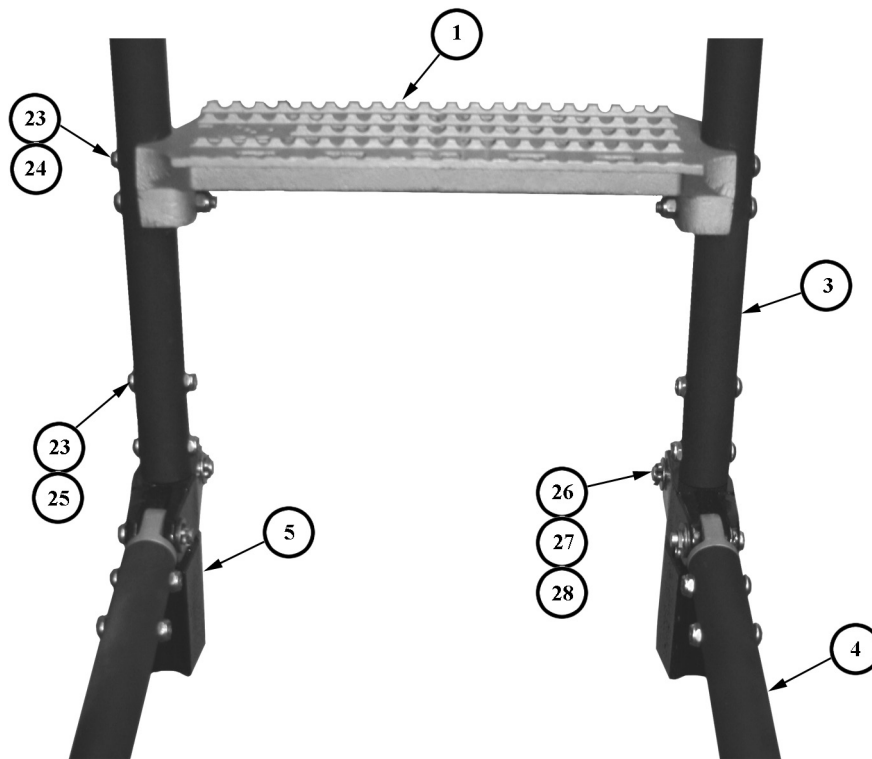
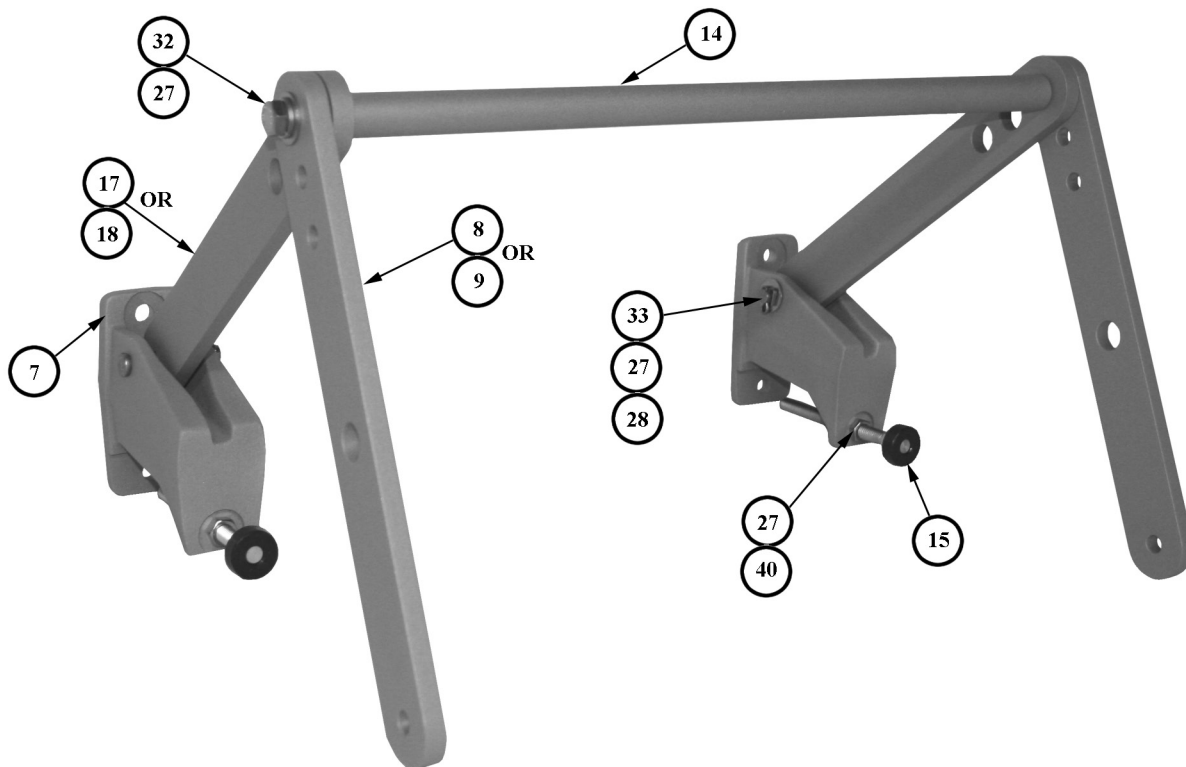

FIGURE 3: FOLDING RAIL (FOREGROUND) ATTACHED TO MAIN RAIL
FIGURE 4: LOWER HINGE BRACKET ASSEMBLY
2. Attach Upper Brackets (Item 10, Figure 1, Page 5) and Fixed Rails (Item 2, Figure 1, Page 5) Assembly and Lower Hinge Brackets (Item 7, Figure 4, Page 6) Assembly to Main Ladder (Item 3, Figure 3, Page 6) Assemble using the hardware provided.
6. Drill holes for Upper Brackets (if not already completed) and Lower Hinge Brackets after locating the proper placement for the brackets. For the locking linkage to function properly the lower hinge brackets must be parallel to one another. The Lower Hinge Brackets should be mounted onto truck so that when the Folding Rail (Item 4, Figure 3, Page 6) is in the stored position, the center linkage hole between the Scissor Lock Link Out (Item 8, Figure 4, Page 6) and the Scissor Lock Link In (Item 17, Figure 4, Page 6) should be about halfway between the Main Ladder and the truck wall. Attach Upper Bracket and Lower Hinge Bracket to the truck.